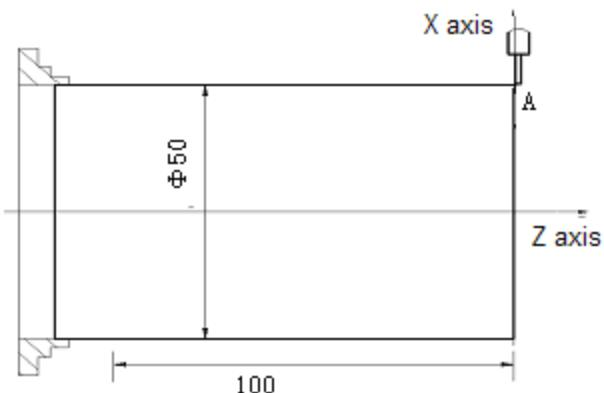

Fig.10-4
(6) Move the tool into the safe position, and execute the 2nd tool by pressing the tool change key in Manual mode;
(7) Start the spindle and move the tool into the tool setting position, which is shown as Fig. 10-4, like point A: